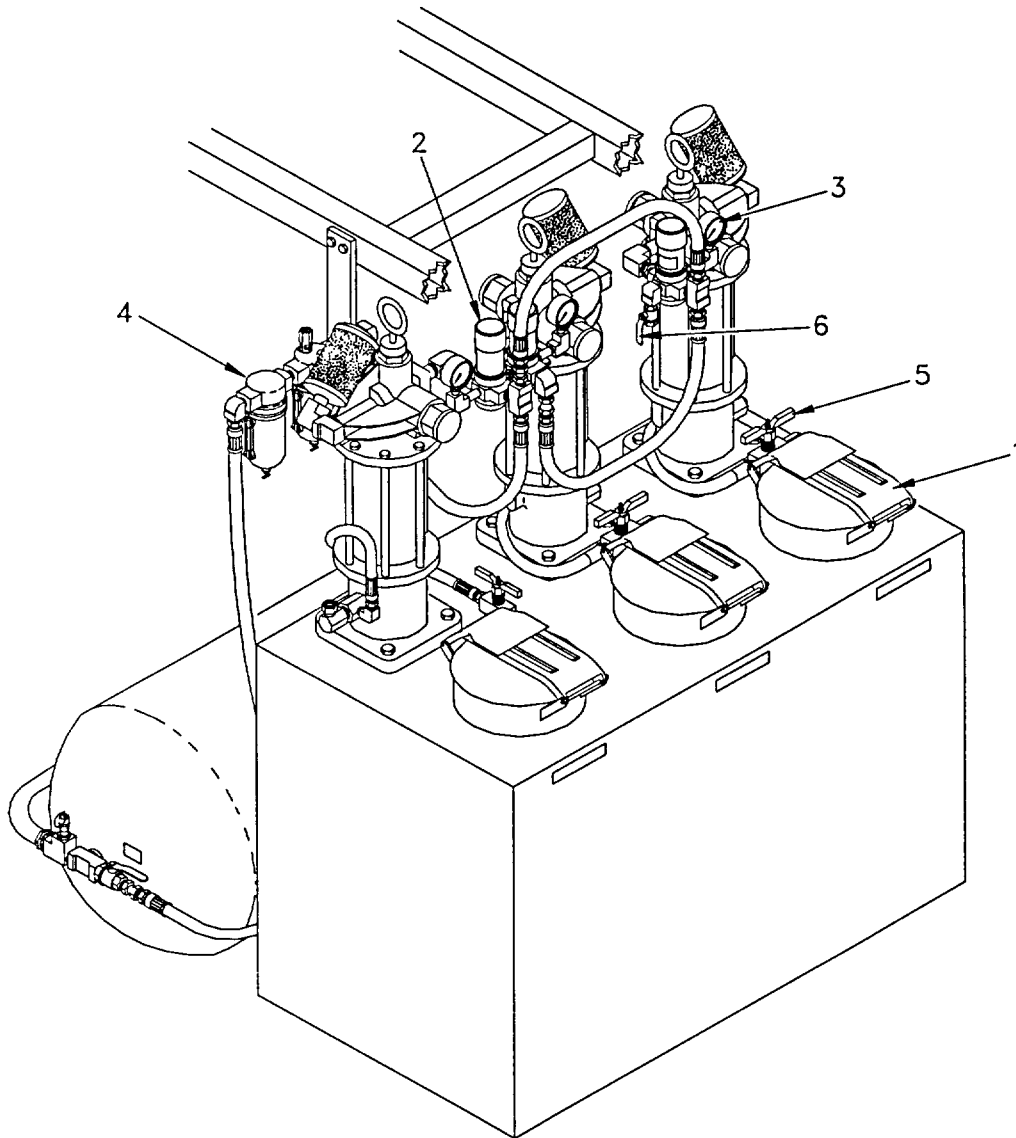

Figure 2-2. Lube Tank Assembly Controls and Indicators
b. Lube Tank Assembly. (Refer to Figure 2-2).
- (1) Manhole Cover Latch (1). Opens the cover to each lube compartment.
- (2) Air Pressure Regulator (2). Regulates pump speed. Adjusts air pressure to the pumps.
- (3) Air Pressure Gauge (3). Displays air pressure from 0-200 psi.
- (4) Air Moisture Separator (4). Removes moisture from the air coming from the air receiver tank to the air regulators (2).
- (5) Lube Recirculation Valve (5). Permits recirculation of lubricant from pump to compartment.
- (6) Air Pressure Relief Valve (6). Relieves air pressure in all pump lines.